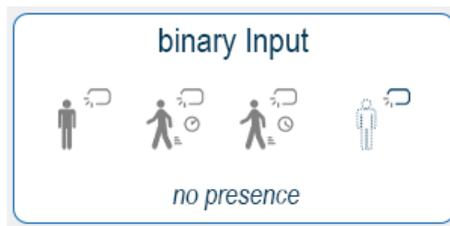

Figure 4.4 State 4 no presence.
- **State 4:** No presence (See Figure 4.4)